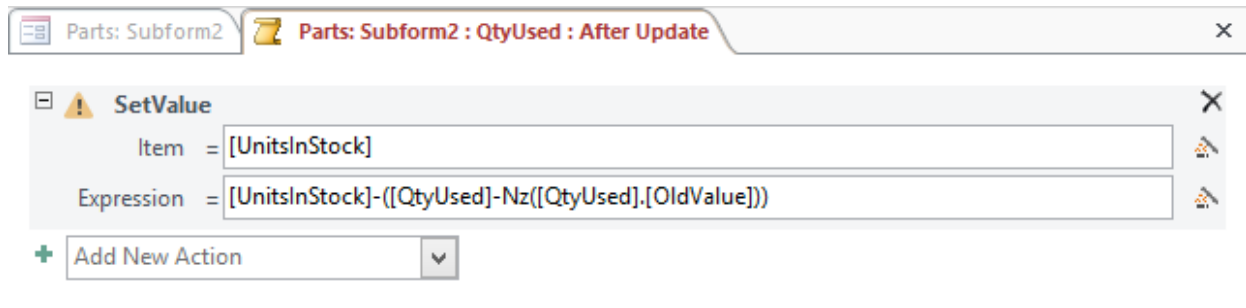

Figure 42: Macro with *SetValue* Action and Arguments
3. Set Argument Values: In the area below, set argument values as indicated in the list below. For your reference, see Figure 42.